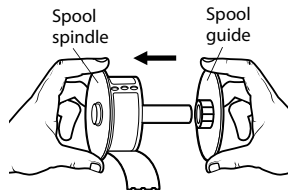

Figure 7
- 4 Hold the spool spindle in your left hand and place the label roll on the spindle so that the labels feed from underneath and the left edge of the label roll is flush against the side of the spool. See Figure 7.